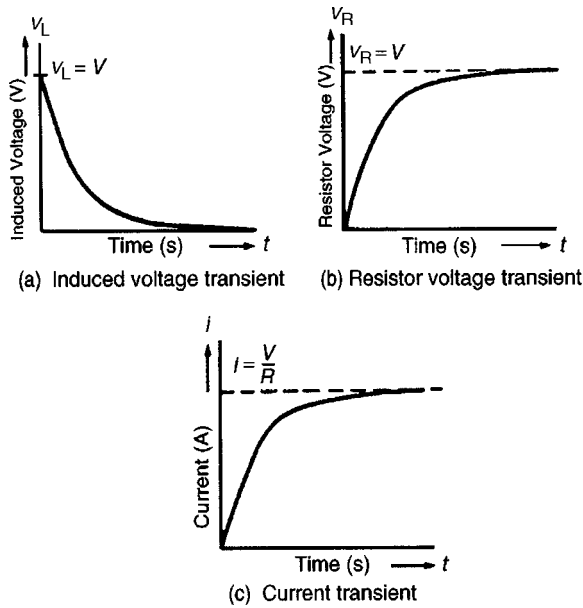

Figure 18.11
- (g) Curves showing the changes in v_L , v_R and i with time are shown in Fig. 18.11 and indicate that v_L is a maximum value initially (i.e. equal to V), decaying exponentially to zero, whereas v_R and i grow
Each of the transient curves shown in Fig. 18.11 have mathematical equations, and these are: